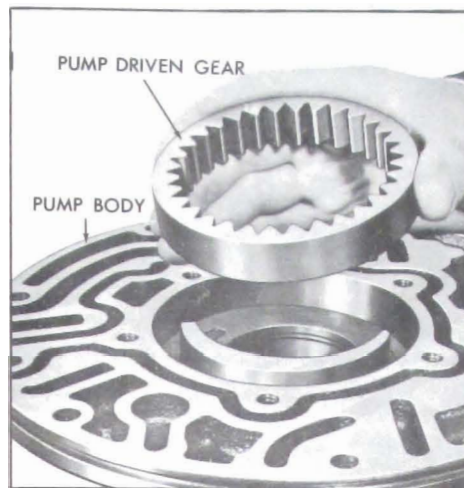

Figure 5-595
17. Remove driven gear from pump body. See Figure 5-595.